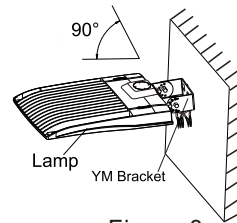

Figure 8
Step 3: Connect the fixture to the bracket and tighten the screws; connect the wires properly and put them into junction box. (Figure 8)
Notice: Adjustable angle is 0-90° (Figure 8)